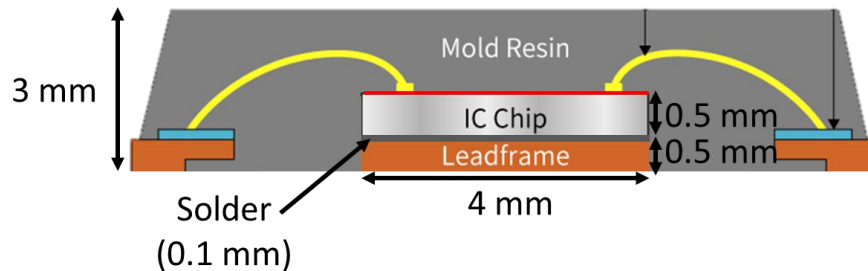

Figure 2: Package for problem 2.
2. Calculate the junction-to-case thermal resistance through i) the bottom and ii) the top of the package in Figure 2. The leadframe is made of copper and has a thermal conductivity of 390 W/mK, the epoxy molding compound has a thermal conductivity of 0.25 W/mK, the solder die attach has a thermal conductivity of 50 W/mK, and the silicon die has a thermal conductivity of 120 W/mK. Assume the heat is generated at the top surface of the die (indicated by the red line at the top of the die). Consider the die in the thermal resistance calculation. The die and the leadframe each have dimensions of 4 mm × 4 mm × 0.5 mm. The solder die attach is 4 mm × 4 mm × 0.1 mm. The epoxy is 3 mm thick. Since the epoxy has a low thermal conductivity, you can assume that the heat does not spread in the epoxy.